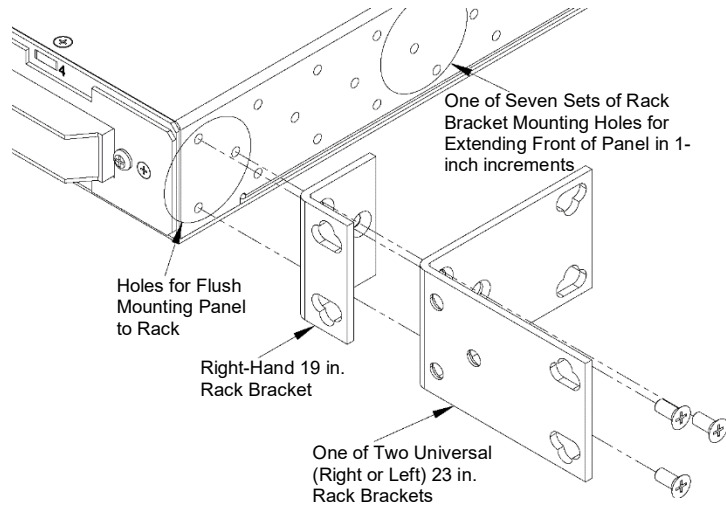

Fig. 4: Bracket orientation
3. If necessary, to move or replace the 19-inch brackets, remove three screws on sides of breaker panel, as shown in Fig. 4.